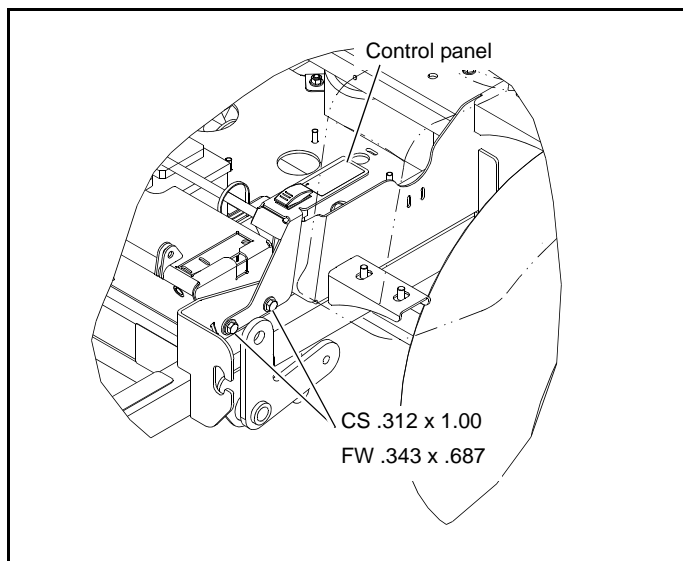

Figure 3-16
10. Attach the BAC-VAC™ control panel to the left side of the mower using the existing hardware. Figure 3-16